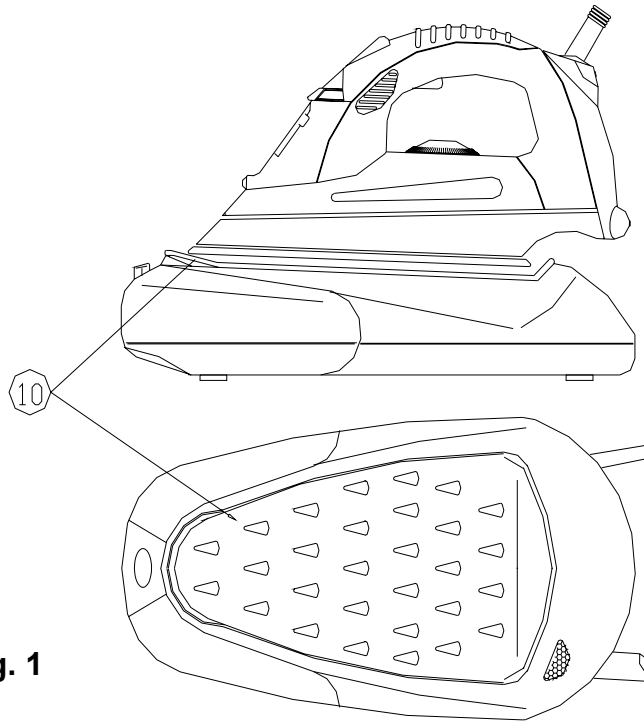

Fig. 1
- The iron stand (8) has 5 holes on the circumference of its top.
- The rubber mat (10) has 5 pins in the corresponding locations.
- Place the rubber mat (10) on top of the iron stand (8) and push each individual pin into its hole. (Fig. 1)